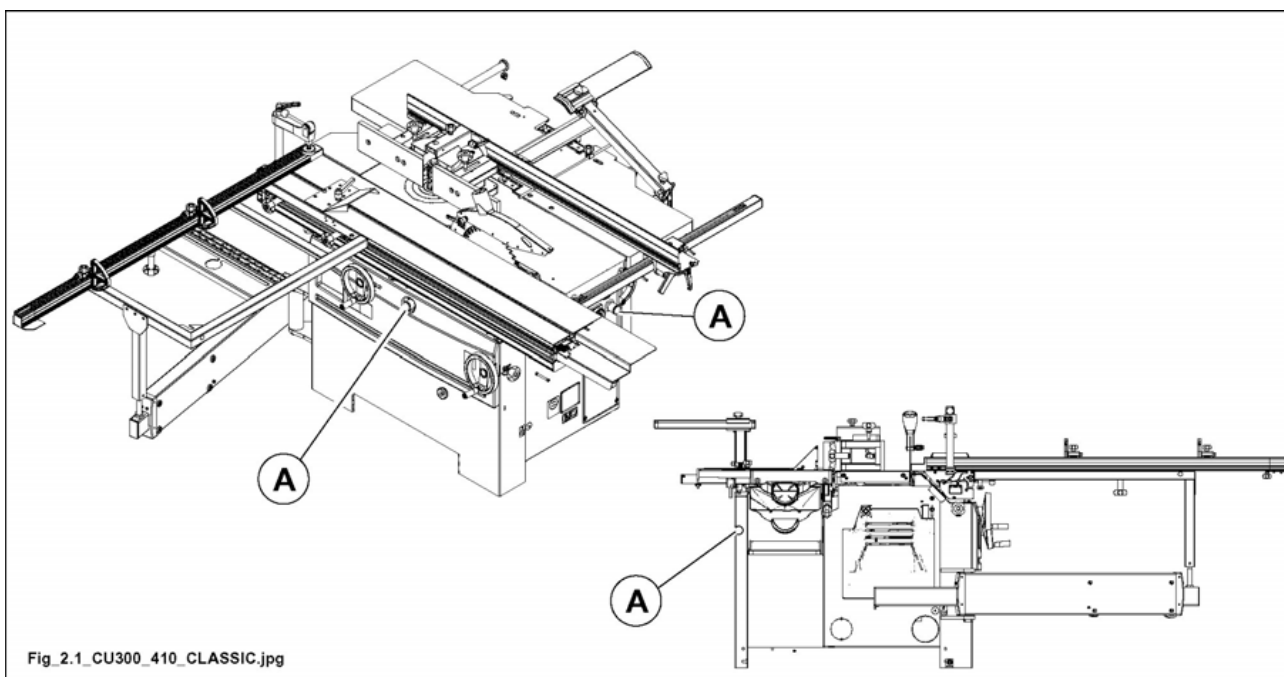

Fig. 2.1
2.1 ARRANGEMENT AND DESCRIPTION OF EMERGENCY DEVICES (FIG. 2.1)